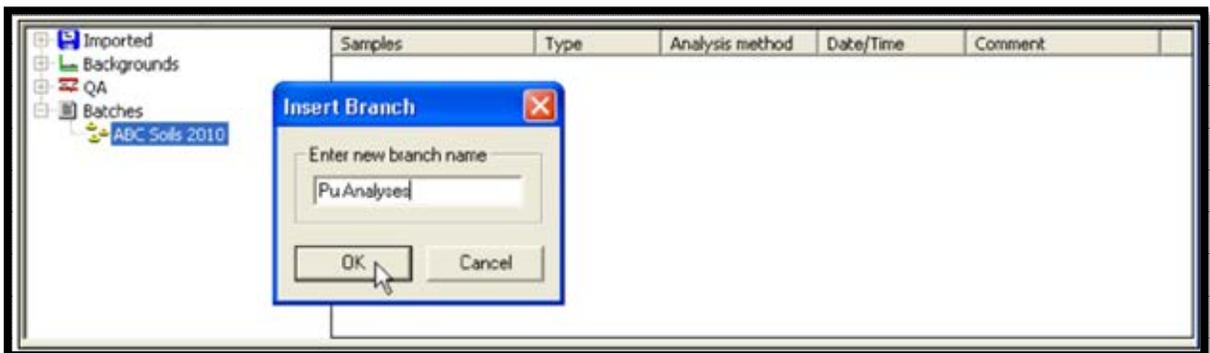

Figure 171. Insert Additional Branch
- 3) To further refine the Batch Explorer Tree for this project, right-click the *ABC Soils 2010* branch, choose **Insert Branch...** again, enter *Pu Analyses* in the Insert Branch dialog and click **OK** (Figure 171).